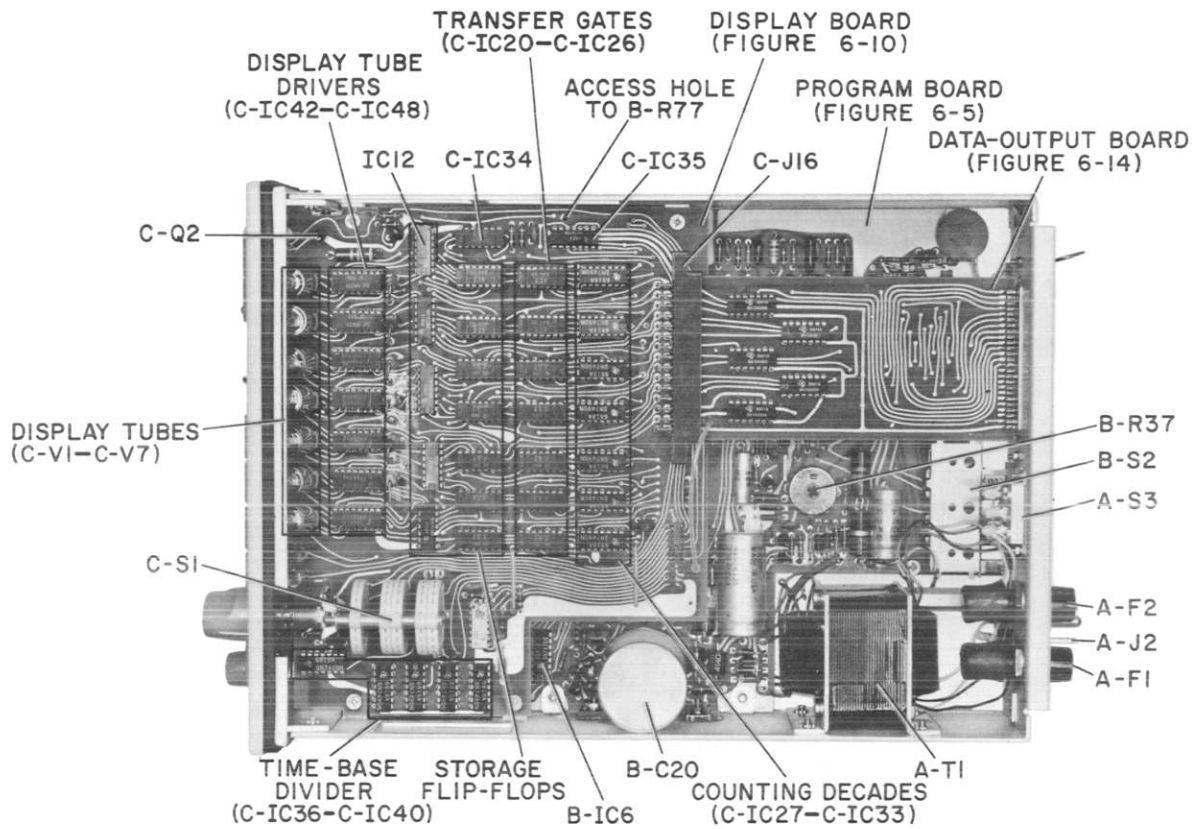

Figure 5-3. Top interior view of 1192 - all boards in place.
- b. Unplug the jumper wire from the data output board to the display board at the display board (Figure 5-3).
#### **5.5.4 Display Board (Figure 5-3).**